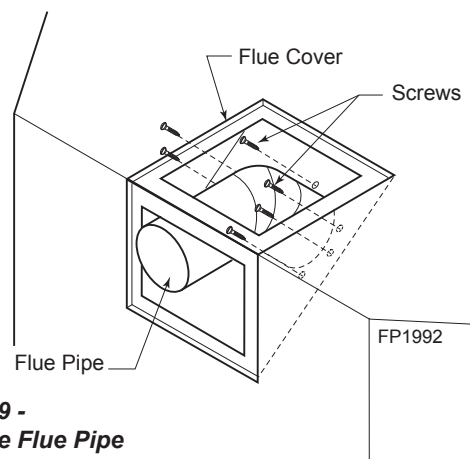

**Figure 9 -
4. Remove the six (6) screws securing the flue pipe to the back of the intake box and remove the pipe and gasket. *Figure 9*